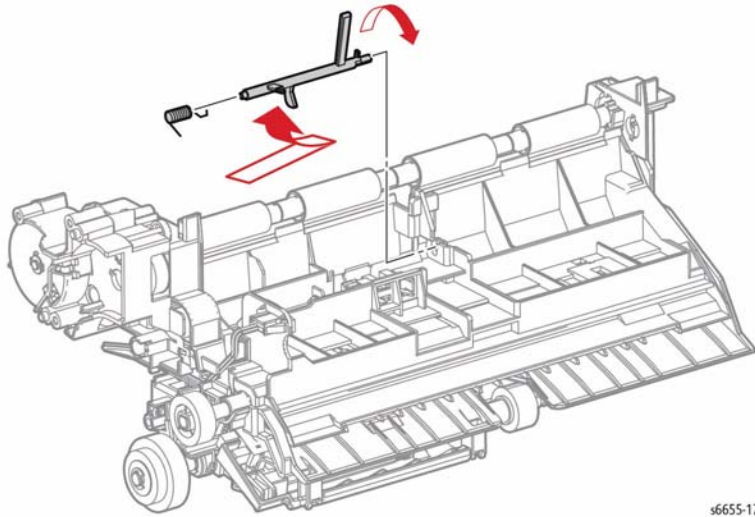

Figure 2 Remove the No Paper Actuator
4. Refer to Figure 2 to locate and turn the No Paper Actuator, and remove the actuator together with the Registration Actuator Spring in the direction of the arrow.